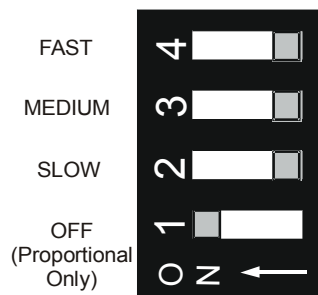

Figure 5: DIP Switch for Setting Integration Constant or Proportional Only Control (Switch shown is set for Proportional Only Control)
- **OFF: Switch 1 On and all others Off** provide proportional only operation. In open-loop applications, (without feedback) select proportional-only operation. (See Figure 5.)
In Direct Acting (DA) mode, the analog output signal magnitude increases as the pressure rises. In Reverse Acting (RA) mode, the analog output signal magnitude increases as the pressure drops. (See Figure 5.)